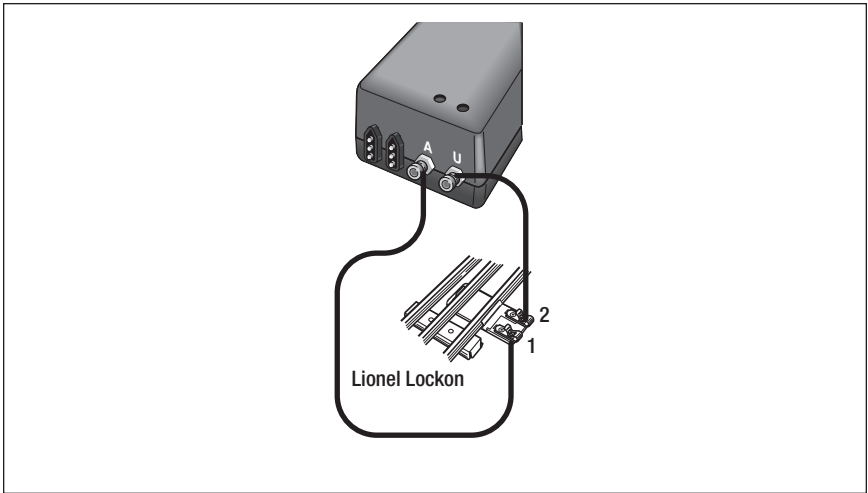

Figure 3. Transformer connection
2. Attach one wire to the Lockon spring clip terminal labeled “1” and connect it to the power terminal labeled “A” on the PowerMaster. All Controller connections are illustrated in Figure 3 on page 6.